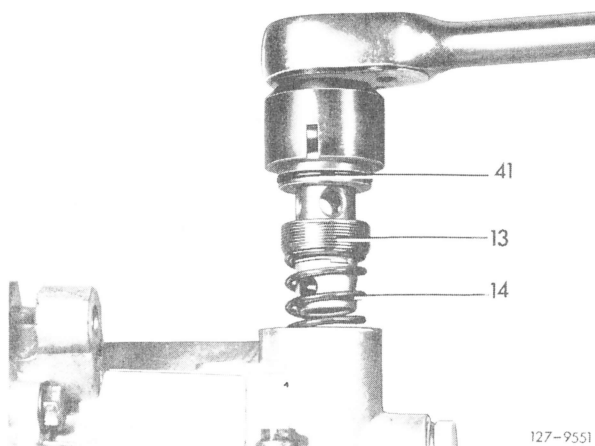

Fig. 43
**70** Screw-in plug for secondary pump (13) with new O-ring (41) and compression spring (14) (Fig. 43).